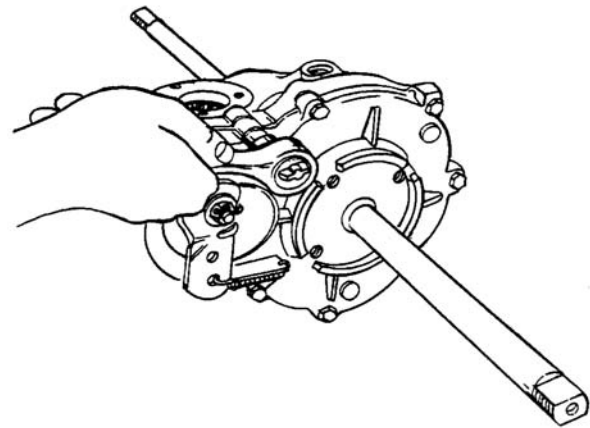

Figure 5-8. Location of Hex Bolts
9. Remove the eight hex bolts holding the two housing halves together. A 3/8 inch wrench is required. See Figure 5-8.